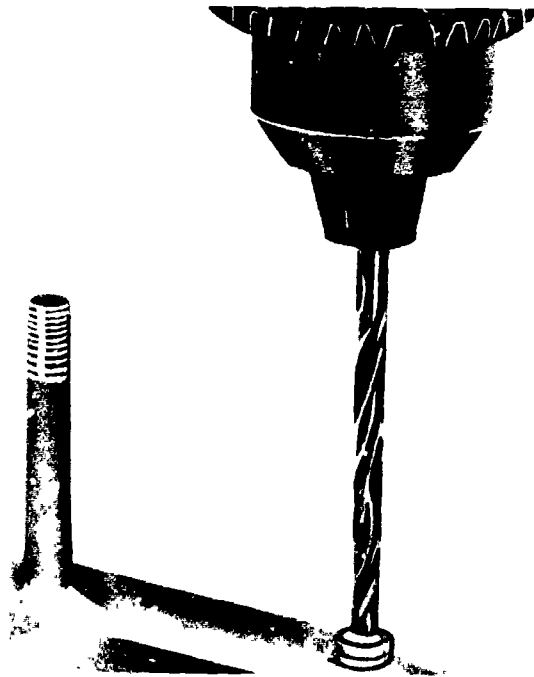
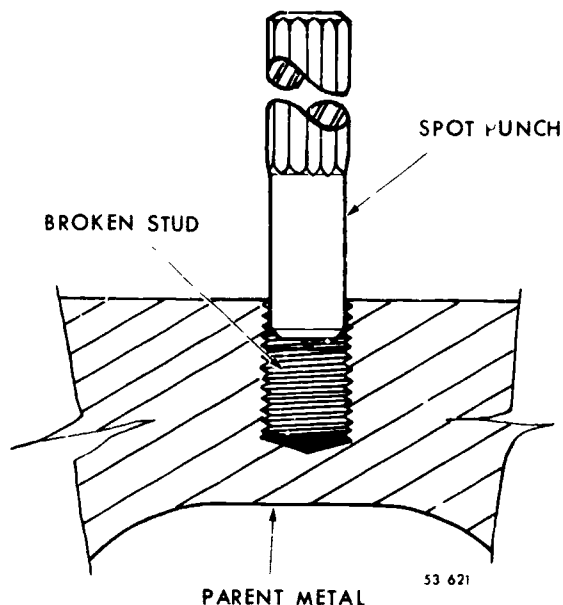

Figure 6-9. Removing a stud by drilling.
Figure 6-10. Spot punching a broken stud.
**Removing Studs by Drilling.** Broken studs may be removed by drilling out the portion left in the parent part, as shown in figure 6-9. There are several methods of drilling out broken studs. Probably the most accurate method of drilling is to use a drill jig. However, due to close working quarters, you will sometimes have to drill without a jig. Usually, you should try to spot punch the center of the broken stud, as shown in figure 6-10, and the drill for an extractor. The accuracy of the drilled hole will depend entirely upon your skill, and if the extractor fails, you will have to drill the stud completely out. The object of drilling is to drill out the